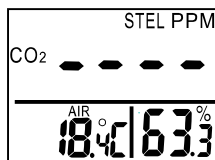

Fig. 3
- It takes at least 5 minutes to calculate STEL and TWA. The display shows "----" during the first 5 minutes from power on (*Fig. 3*).